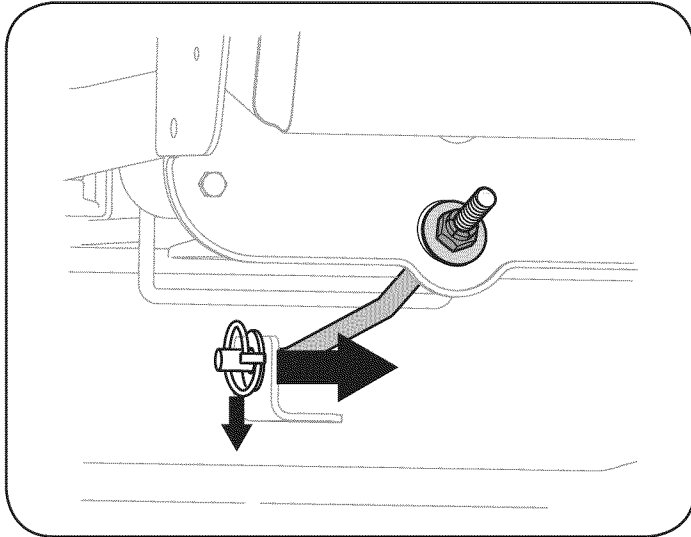

Figure 13
9. Remove the cotter pin from the end of the stabilizer rod and slide the stabilizer out of the hanger bracket on the deck. See Figure 13.
- a. With the deck beneath the mower frame, attach the stabilizer rod. See Figure 13.